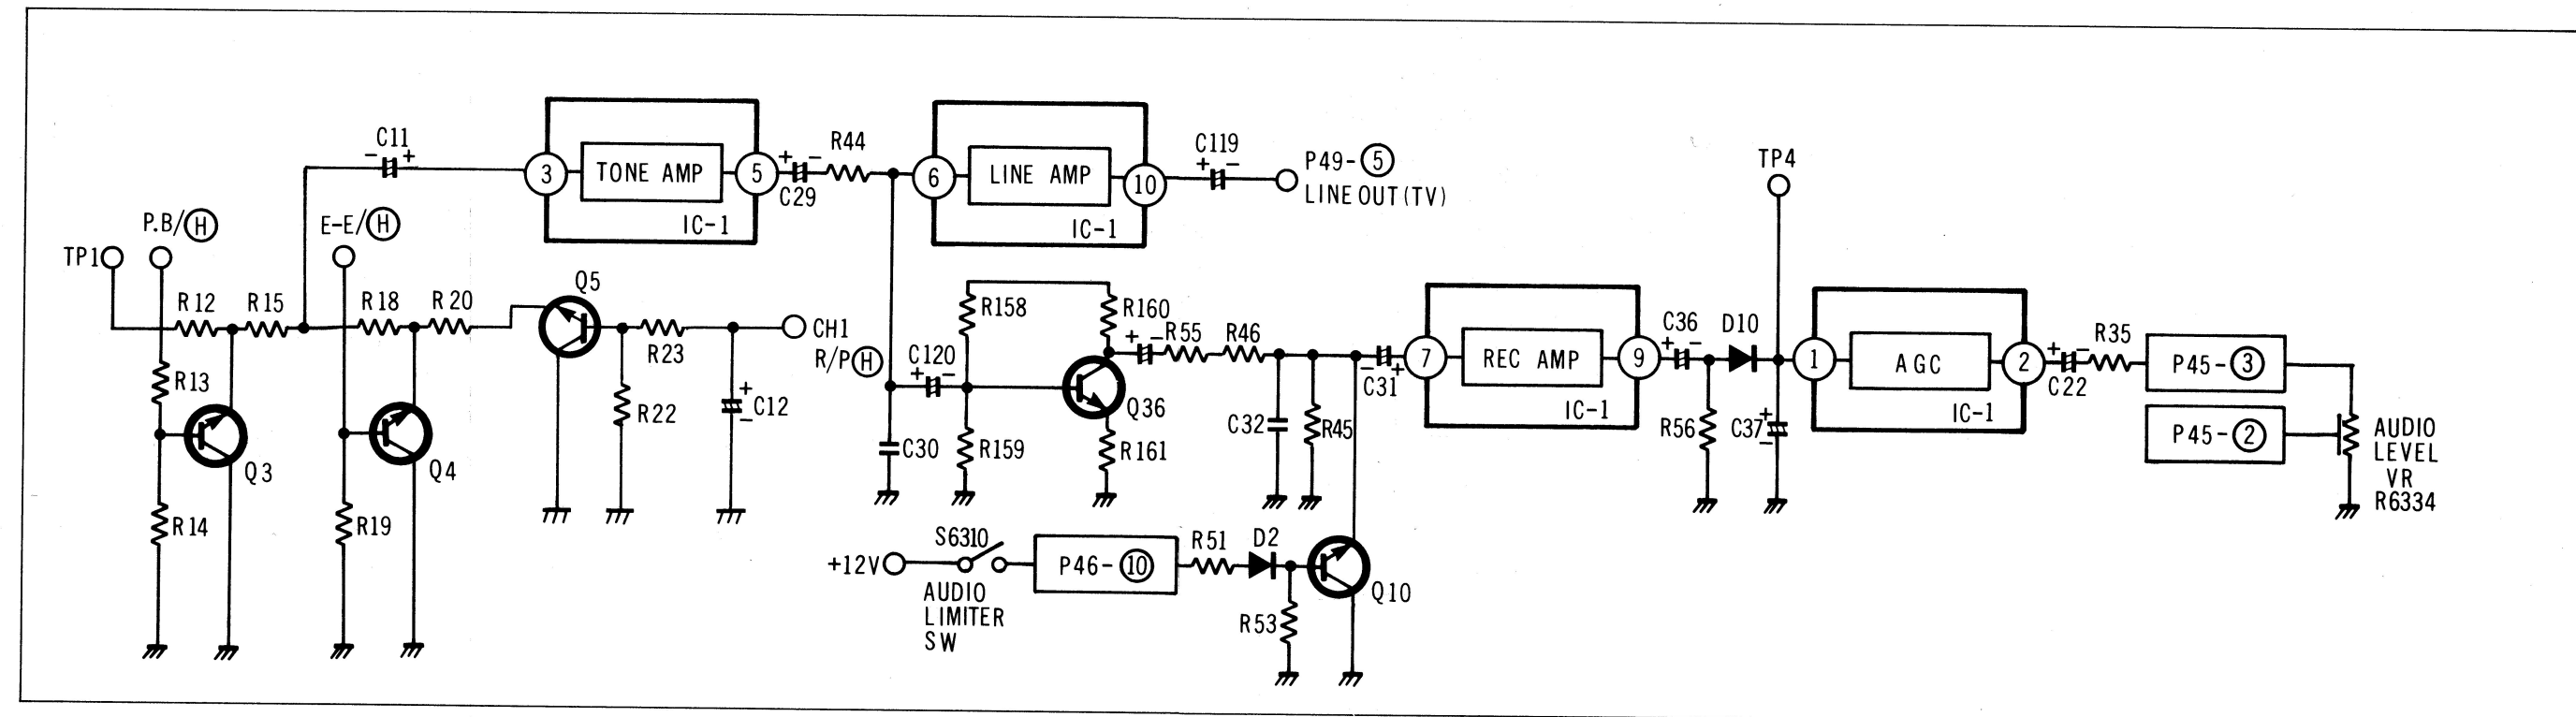

Figure 2-212
for CH1, Q19 for CH2. In the record mode, these transistors are ON, thus passing the signals to their respective tone amplifiers in IC1 and IC2. This is simply an amplification stage between Pins (3) and (5). The output at Pin (5) is then applied to another amplifier inside the IC at Pin (6). The output of this stage at Pin (10) is then goes out to P49-(5) CH1, P410-(5) CH2 as a Line out (TV). See Fig. 2-212. Another output at Pin (5) of IC1 is then sent to the amplifier Q36 (CH1) and Q38 (CH2). The output of this stage is sent to Pin (7) of IC1 for CH1, IC2 for CH2 to amplify the signal and amplified signal appears at Pin (9) of IC1 for CH1, IC2 for CH2. Then this output is rectified and filtered by D10 and C37 CH1 (D22 and C88 Ch2) to obtain a DC level which represents the average level of the audio signal.